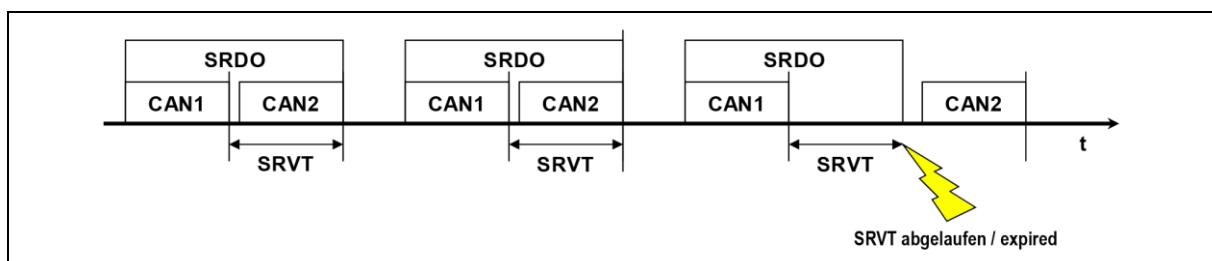

Figure 8: SRVT
- The interval between the two CAN telegrams of an SRDO must not exceed the Safety Related Object Validation Time (SRVT). The validation time is preset in the communication objects 1301h-1303h subindex 3, also see following Figure 8.